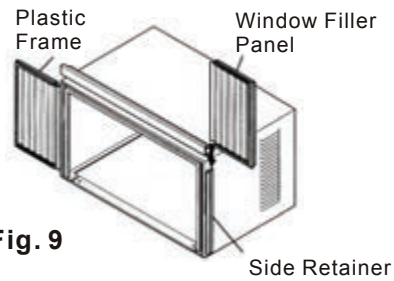

Fig. 9
2. Slide "I" section of window filler panel into side retainer on the side of the cabinet. (See Fig. 9.)